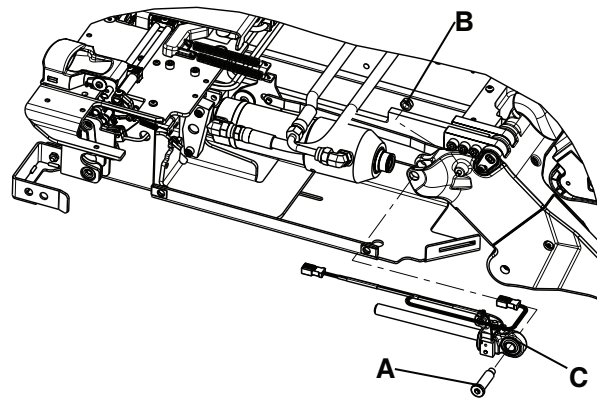

Figure 25 – Hydraulic cylinder rod end assembly
4. Using a 1/4" hex wrench and a 1/2" combination wrench, remove the end cap cylinder pin (A) and nut (B) (Figure 25). Save the end cap cylinder pin and nut.
6. Lift the cylinder while you pull the hydraulic cylinder rod end assembly (C) out (Figure 25). Discard the hydraulic cylinder rod end assembly.